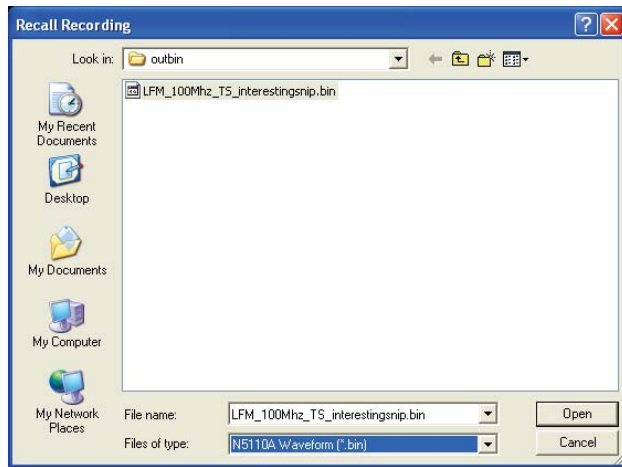

Figure 10. Recall Recording Dialog.
- Using the file open window (Figure 10) select the streaming file